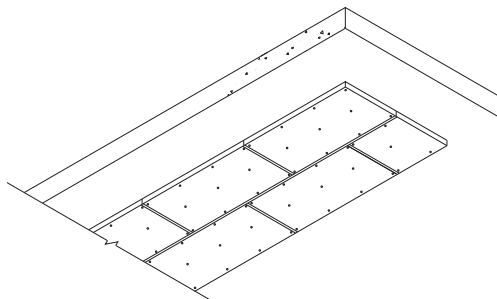

Figure 3 Board joints staggered
2. Board joints can be either staggered or squared (see Figures 3 and 4) and taped with 96 mm wide white *Kingspan Insulation Tape*. 4 No. fasteners along each length - no less than 50 mm - no more than 150 mm from edge of board, 3 No. fasteners along the middle (offset from edge positions as per diagram Figure 3).